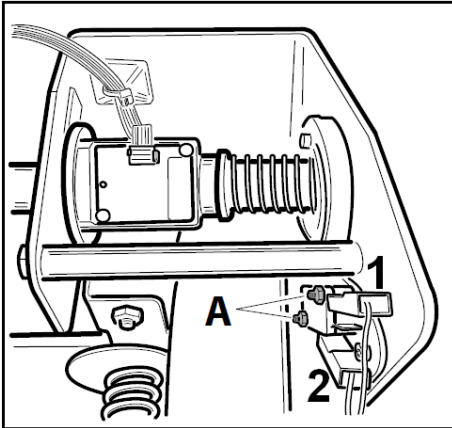

Fig.2d
- Perform the checks described above with a tester. If these checks do not rectify the problem, replace the microswitch, ensuring that the two contacts are reconnected correctly as shown in figure 2d. To replace the microswitch, loosen the two screws (A, figure 2d).